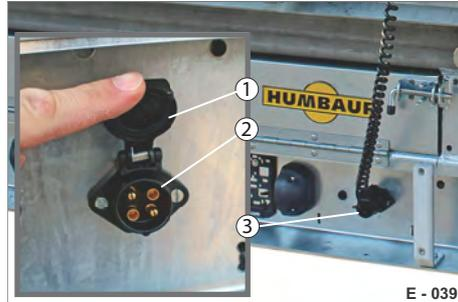

Fig. 28 Inserting rotating light
- ▶ Open the cover of the socket (Fig. 28/1) and insert the plug (Fig. 28/3).